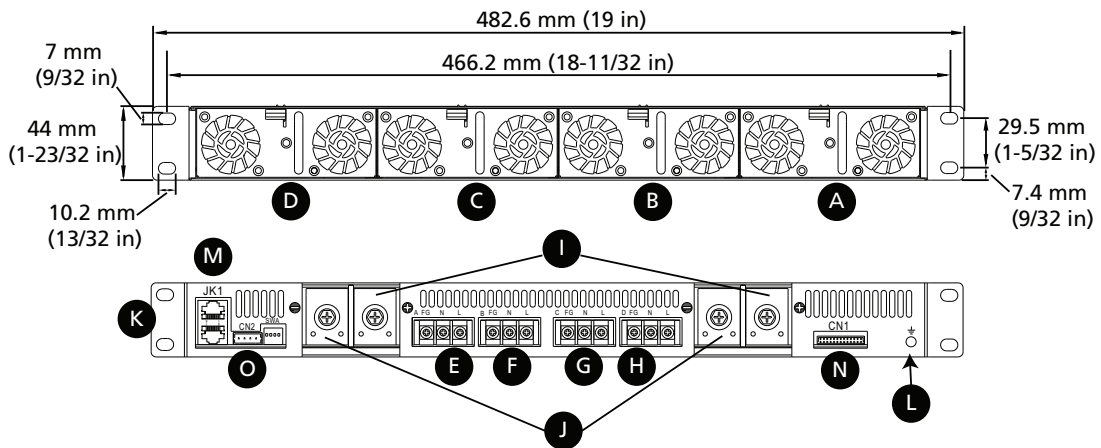

Figure 6. FD-RX-PSU-MW-FRAME front view, *top*; back view, *bottom*. See Table 5 for detailed descriptions of the labeled items.
Table 5. Descriptions of items labeled in Figure 6
Each FD-RX-PSU-MW-FRAME four-bay frame has a ground/earth stud (Figure 6, L on page 51) for connection to the equipment rack ground/earth. ETC provides a 0.6 m (2 ft) harness of 8 AWG insulated wire with a ring terminal on one end and a bare end on the other with the safety kits for this purpose. Use the nut installed on the stud to install the ring terminal. Follow all local and national codes. See Safety Kits on page 54 for more information about safety kits.
- One power cord connects to each set of AC input terminals (*E, F, G, or H* in Figure 6 on page 51) on the FD-RX-PSU-MW-FRAME four-bay frame.